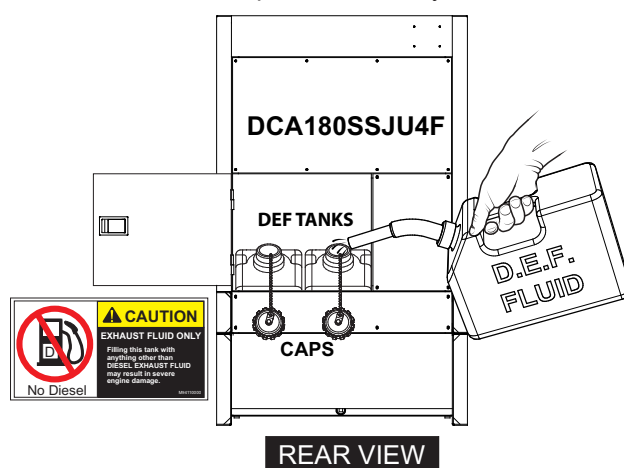

Figure 43. DEF Tank Filling (DCA180SSJU4F)
2. For DCA180SSJU4F generators, open the **enclosure rear door**, remove the filler caps from both DEF tanks (Figure 43), and fill with DEF fluid.